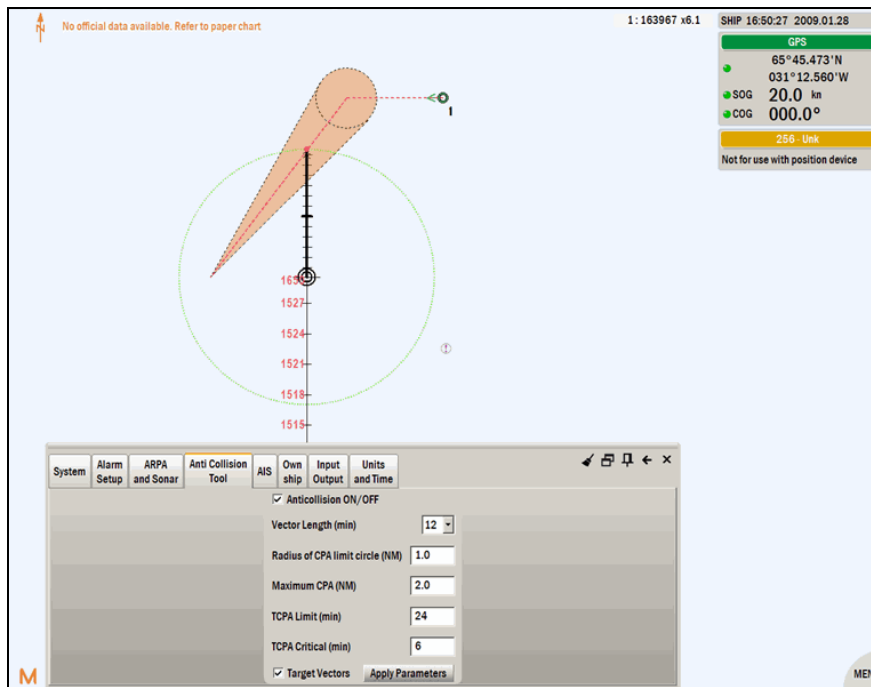

Figure 216 The display of the cone-shaped collision danger region and line to the target in true motion
- The Figure 216 shows the display of the cone-shaped collision danger sector (CDS) and the collision danger line (CDL) to the target in true motion. The user-defined target selection criteria are:
When the tip of the own ship speed vector lies inside the CDS the sector is shaded orange color to highlight the importance of the target for the collision risk evaluation. The Figure 216 shows a traffic situation when own ship is on a direct collision course with the target as the tip of the speed vector lies on the CDL (the red dashed line in the centre of the CDS).